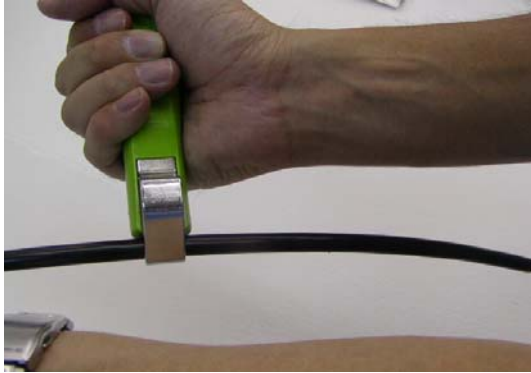

Fig.3
- (1) Remove the sheath by using your own knife. (Fig.3)